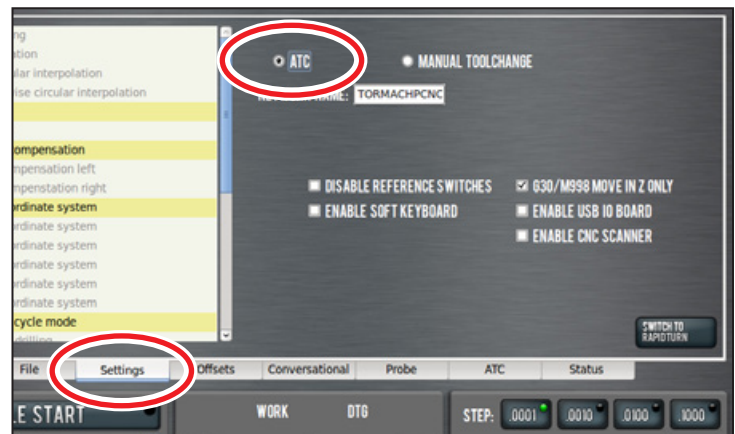

Figure 18
2. From the PathPilot interface, on the *Settings* tab, select the *ATC* radio button (see **Figure 18**).